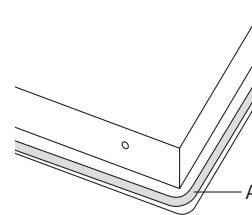

Fig. 15: Sealing strip
2. Remove the protective foil from the sealing strip (A) and apply the strip as far out as possible on the underside of the glass (see fig. 15).